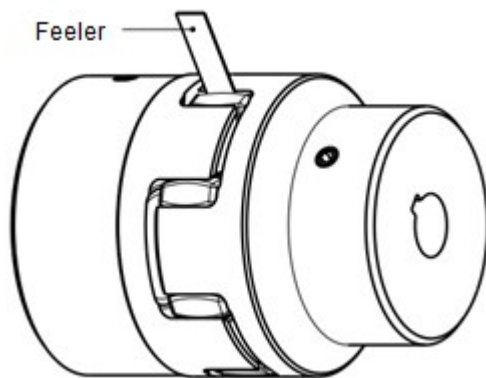

Figure 7 : Method with feeler gage
- Standstill: When checking while at standstill, a feeler gage can be used to check the gap between the spider and the jaw on the hub, see Figure 7. The thickness of the feeler gage must be less than the maximum allowable wear values listed in Table 11.